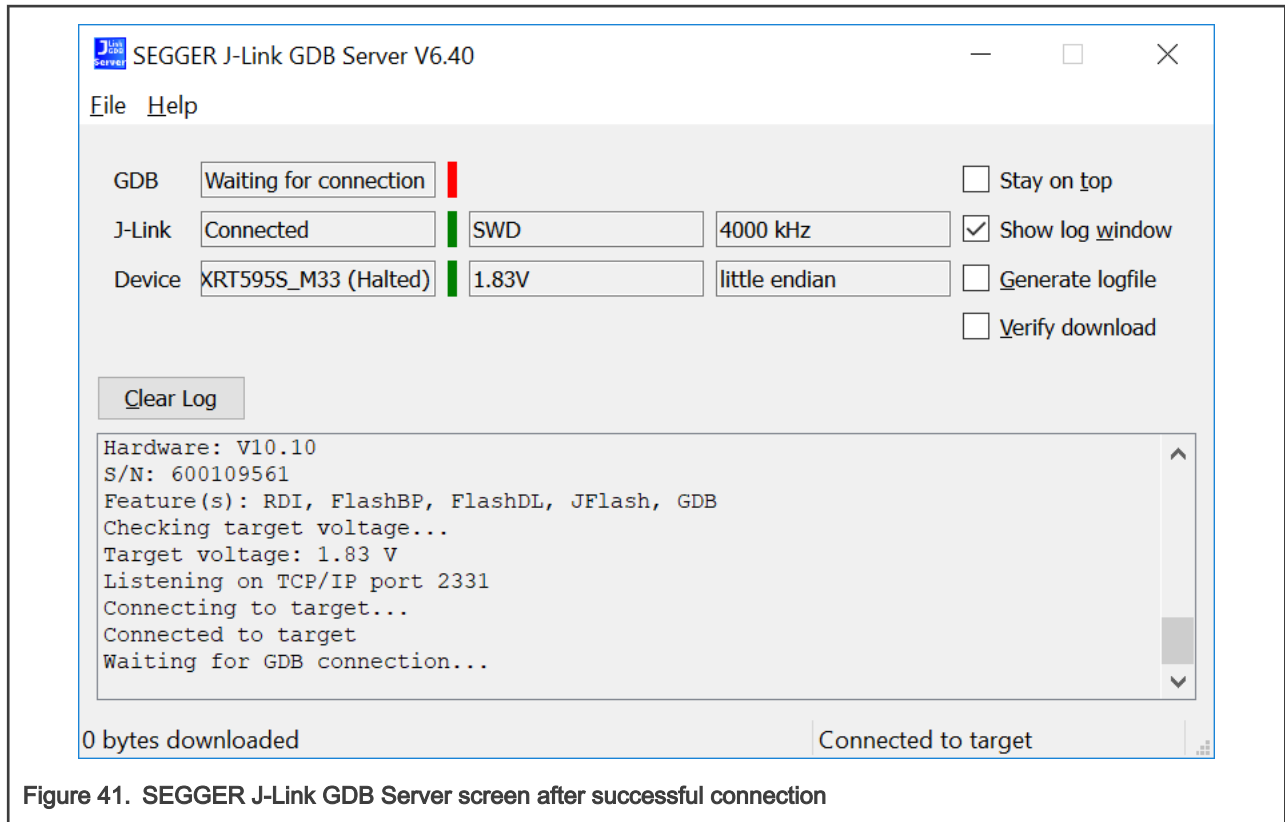

Figure 41. SEGGER J-Link GDB Server screen after successful connection
5. After it is connected, the screen should be as shown in Figure 41.